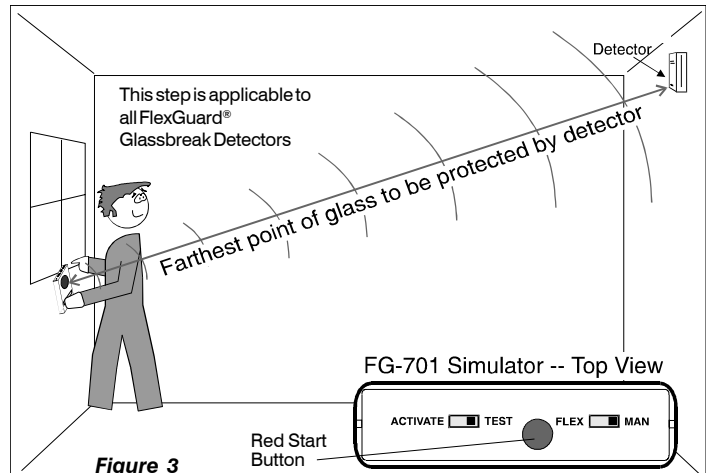

Figure 3
1. Set the FG-701 switches to the TEST and MANual modes. (See Figure 3.)